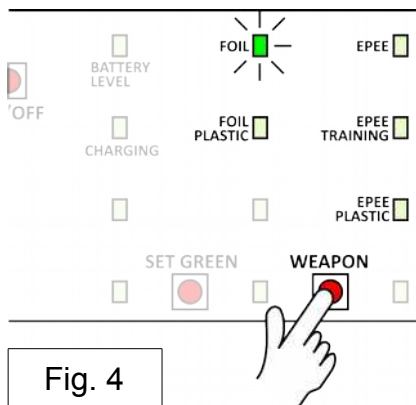

Fig. 4
(1) Programme the desired weapon by pressing the WEAPON button more than once, until the green LED of the desired weapon lights up. See Fig. 4.